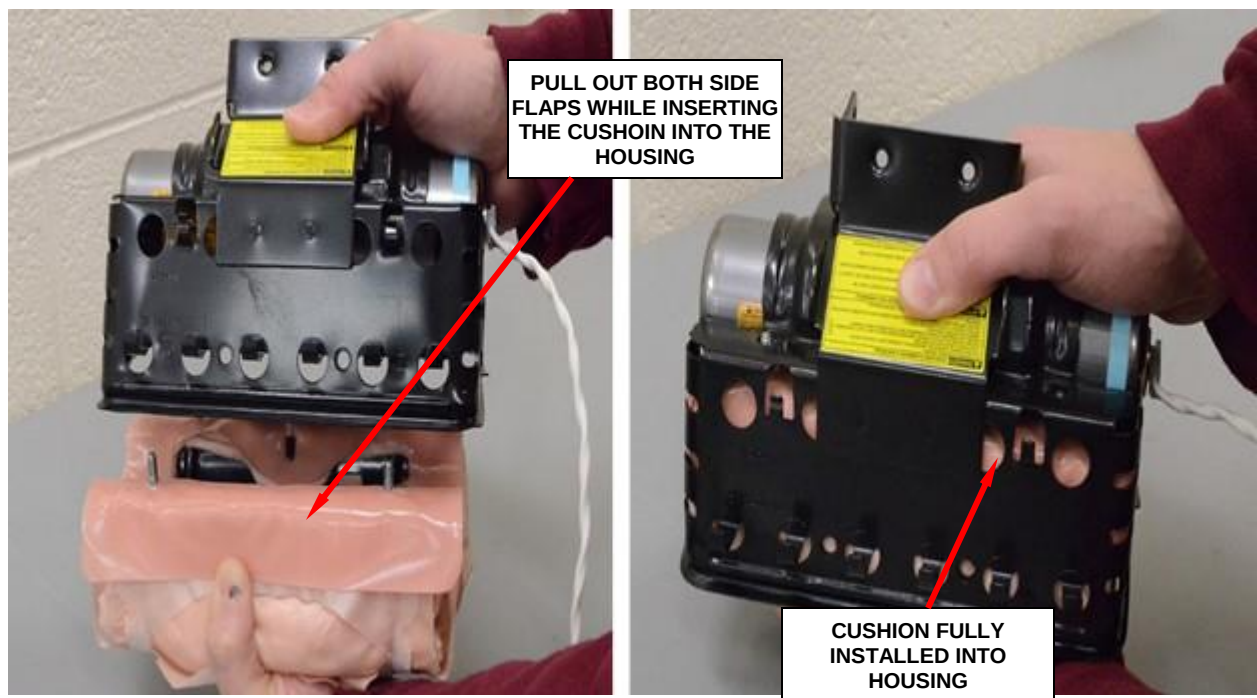

Figure 42 - Side Flaps Must Be Held Out
- k. Insert the cushion, pulling out both side flaps (Figure 42).